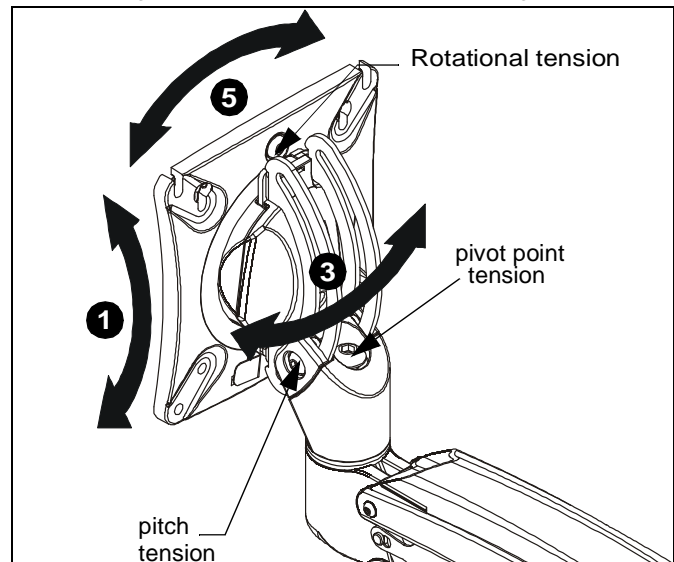

Figure 12
1. Adjust pitch to desired tilt position. (See Figure 12)
2. Adjust pitch tension screw to change the adjustment tension. (See Figure 12)
3. Adjust pivot position as desired. (See Figure 12)
4. Use 3/16" hex key (M) to adjust pivot point tension screws to change pivot adjustment tension. (See Figure 12)
5. The monitor may be adjusted 90 degrees in either direction in order to provide a portrait view of the monitor. (See Figure 12)
6. Use 3/16" hex key (M) to adjust rotational adjustment screw to adjust rotational tension. (See Figure 12)